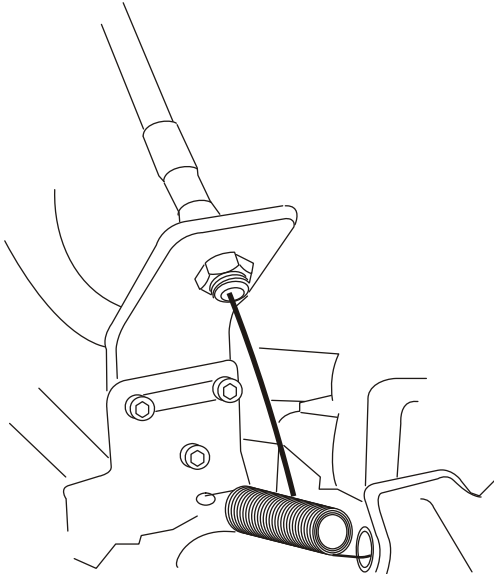

Figure 4.2
- Secure the bracket with the supplied 10-24 Nylok nuts and tighten to specifications. Ensure that the top of the cable mounting bracket is angled inward (Figure 4.2).